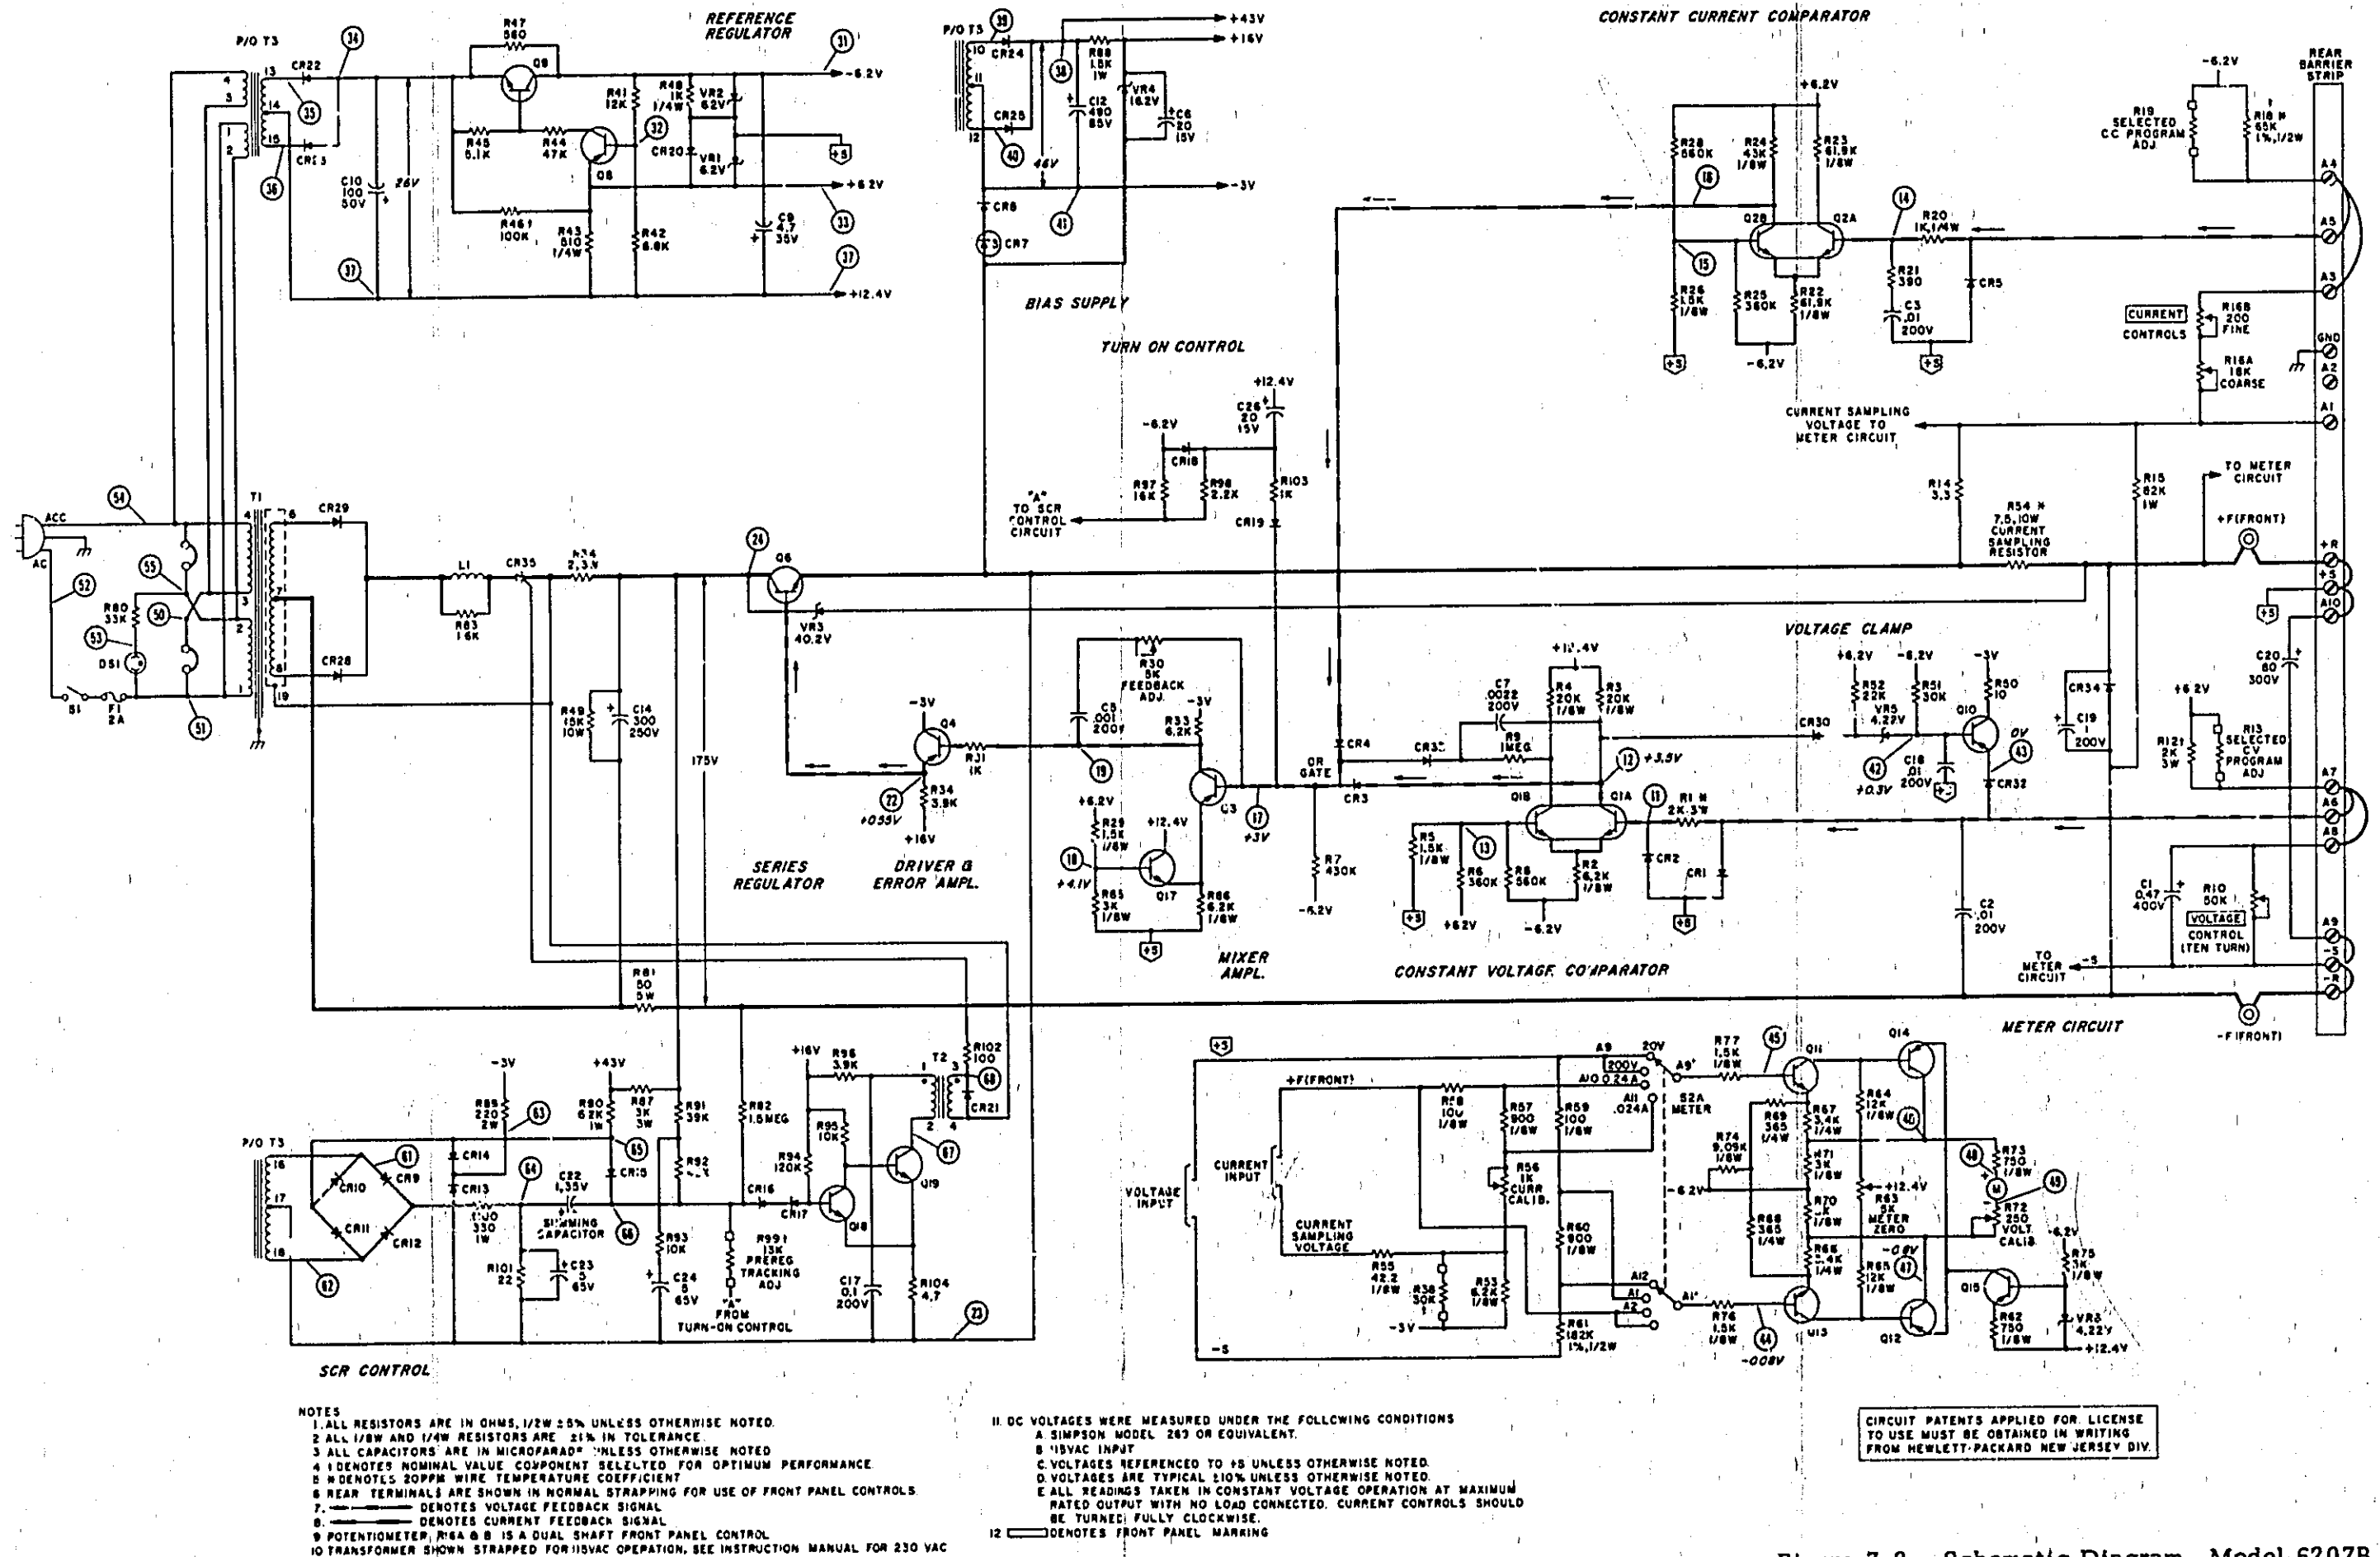

Figure 7-2. Schematic Diagram, Model 6207B
b. Schematic Diagram, Figure 7-2, which illustrates the circuitry for the entire power supply. Voltages are given adjacent to test points, identified by encircled numbers on the schematic and printed wiring board.